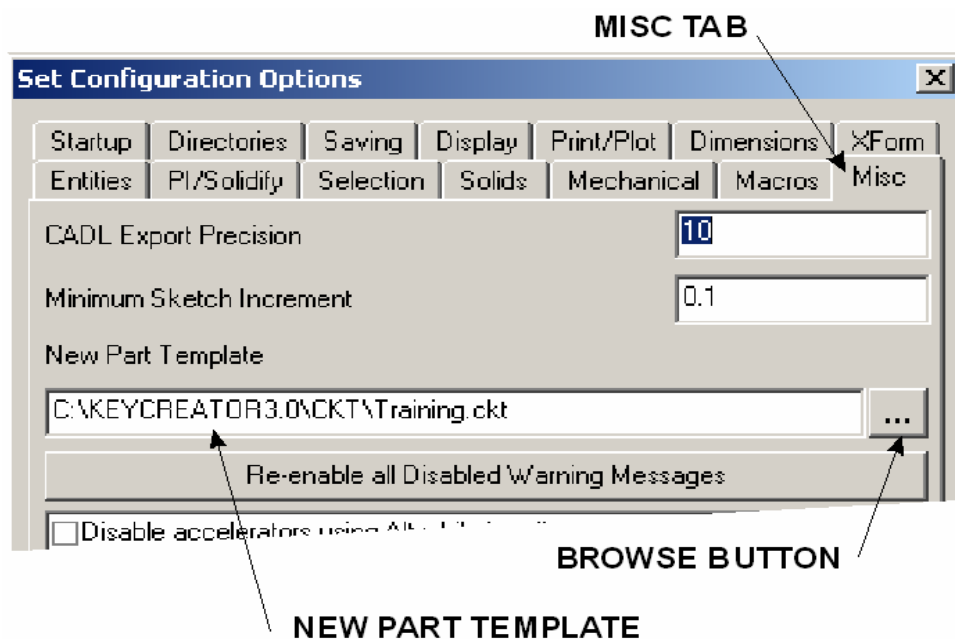

Figure 2
10. Select **Tools, Options**, then select **Misc** tab. (See Figure 2)
11. In the "New Part Template" field, select the browse button then set the path as shown in Figure 2.